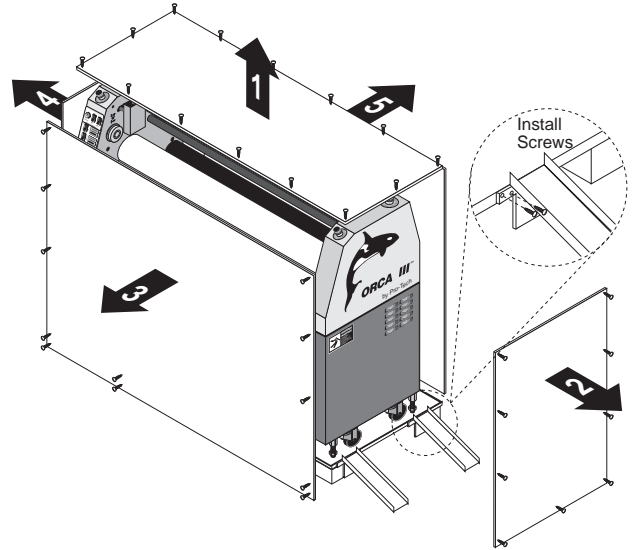

Figure 2-2: Removing the Crate
1. Remove the top of the crate and then the sides in the order shown in Figure 2-2.
4. Have the laminator rolled off the skid and placed on the floor by licensed riggers. The ramps included with the laminator can be secured to the edge of the crate bottom using the screws left over from the crate disassembly (see Figure 2-2).